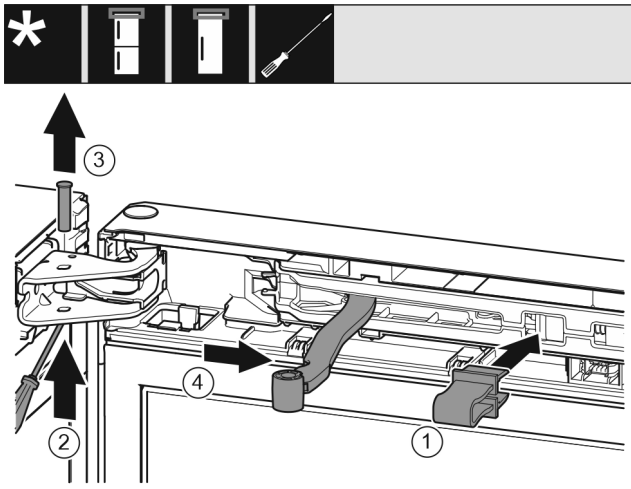

Fig. 7
- Engage the locking device in the opening. Fig. 7 (1)
- Unscrew the bolt with a screwdriver. Fig. 7 (2)
- Remove the bolt upwards. Fig. 7 (3)
- Turn the hinge in the direction of the door. Fig. 7 (4)